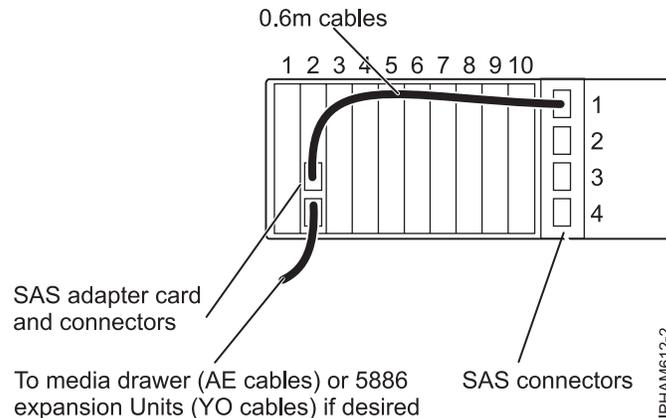

Figure 12. Physical cabling example: One hard-disk-drive partition with 18 disks, a single SAS adapter, and hard-disk-drive partitions switch position 1
<p>One hard-disk-drive partition with 18 disks and a single SAS adapter.</p>	<p>For related physical cabling, see Figure 12 on page 14.</p> <p>Operating system: AIX or Linux</p> <p>SAS adapter: One (FC 5901) - PCIe Dual - x4 SAS Adapter</p> <p>Hard-disk-drive partitions switch: position 1</p> <p>Cables: One (FC 3688) - SAS cable (AT) 0.6 meter.</p>